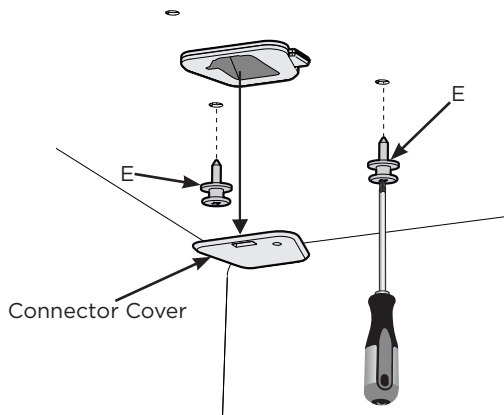

Figure 1
2. Use a Phillips screwdriver to install 2 shoulder screws (E) in the upper rear holes. Turn until the shoulder screws are in firm contact with the freezer wall. (See Figure 1).